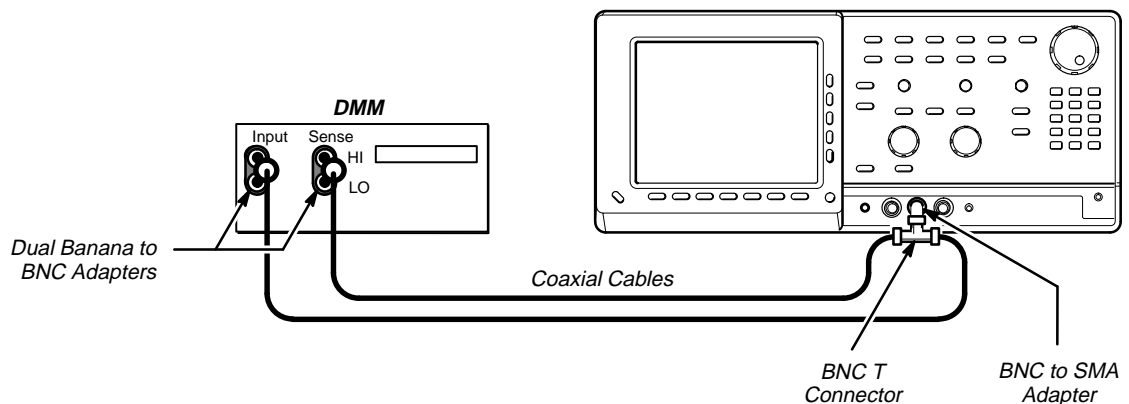

Figure 1-10: Initial Test Hookup
- Connect the output of the DMM through a dual-banana connector followed by a 50 Ω precision coaxial cable to one side of a BNC T connector. See Figure 1-10.